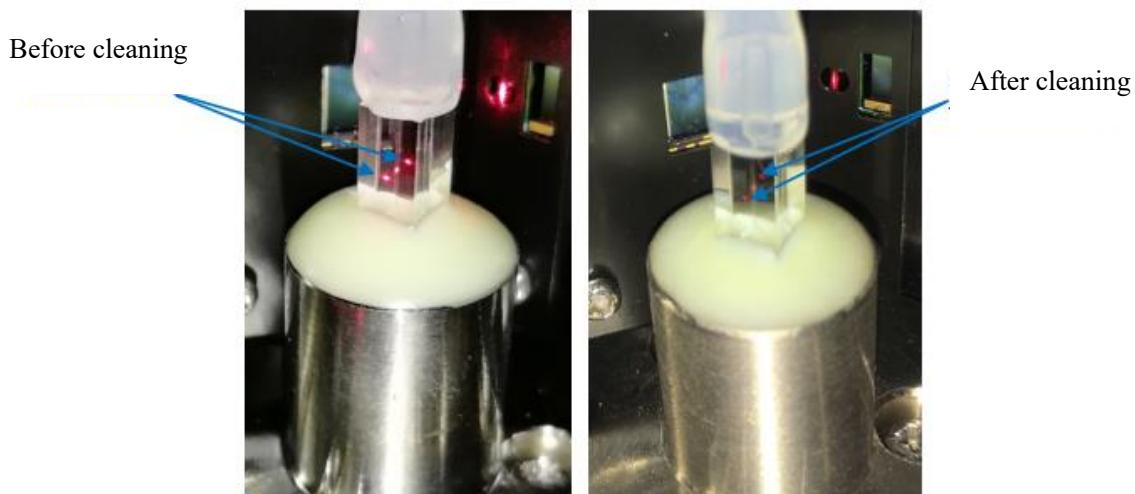

Figure 6-17 Flow cell before and after cleaning
1. Observe the light spots on the surface and inside the flow cell from the following angles, as shown in Figure 6-17. If the exterior of the flow cell is very bright, then the exterior may be stained. Use a clean cloth dampened with dehydrated alcohol to wipe the exterior, until the bright part darkens or disappears, as shown in the right in Figure 6-17. If the interior of the flow cell is very bright and cannot be darkened by the built-in cleaning procedure, then it will be necessary to manually rinse the inside of the flow cell.